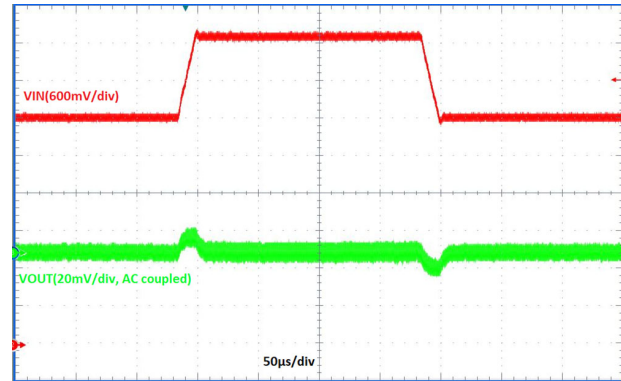

Figure 19. Line Transient, $V_{IN} = 3.8\text{ V} \leftrightarrow 5\text{ V}$,
6. Refer to Fig. 19 Typical Derating Curve for additional I_{OUT(MAX)} guidance.